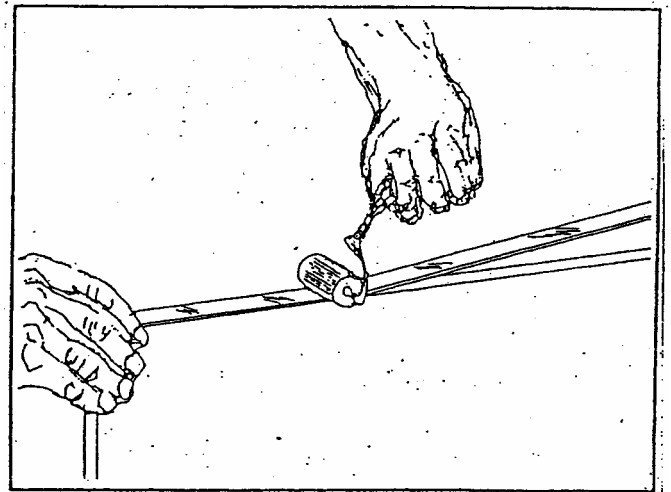

Figure 4
2. Adhere the edge strips to the substrate by hand, using a J-Roller or a high quality edgebander (no pricks). If you use an edgebander, set its trimmer for the accurate thickness and check the automatic feed roller. A prick roller can puncture the back of the sheet, therefore, feed the sheet through the edgebander by hand. You can also use hot melt adhesive with an edgebander. See Figure 4.